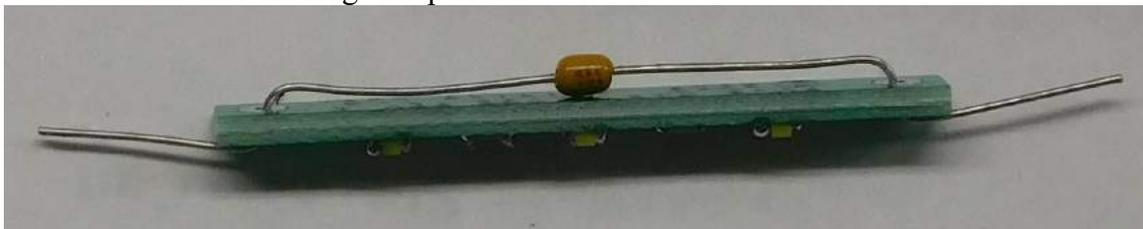

Figure 6-insert the capacitor and form the leads
2. Insert the capacitor onto the back side of the board and bend the leads as shown in Figure 6.